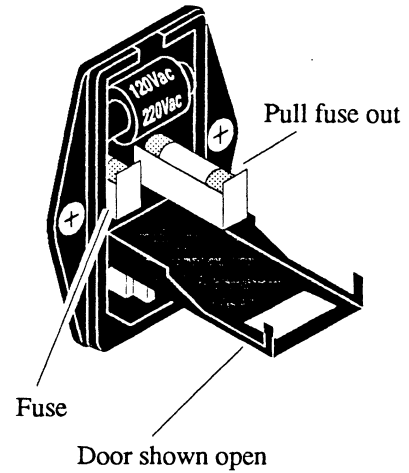

Figure 2 - Replacing the Fuses
2. Carefully pry open the fuse holder at the top of the door and replace the fuses if necessary (Figure 2).